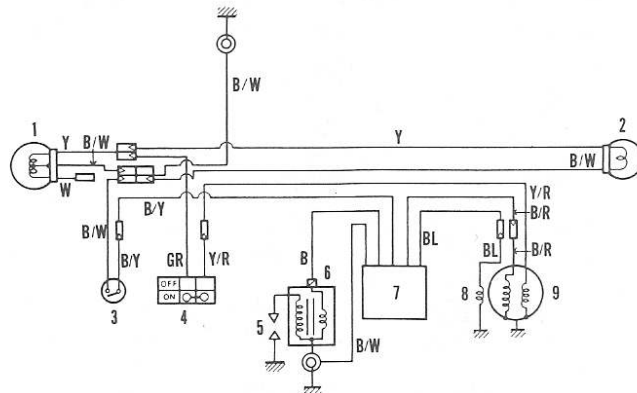
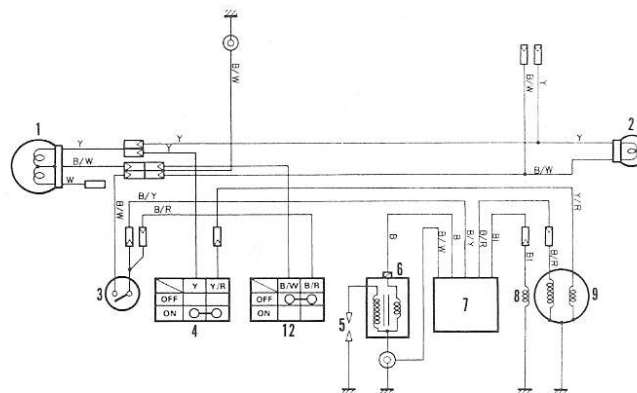

Fig. S6-8—Wiring diagram for all ALT125 models and LT125 models except for Model LT125H.
Fig. S6-9—Wiring diagram for Model LT125H. Refer to legend in Fig. S6-8 for identification of components and wiring color codes except for ignition switch (12).
positions to prevent short circuiting. Refer to Fig. S6-8, Fig. S6-9, Fig. S6-10 or Fig. S6-11 for schematic wiring diagram pertaining to a particular model.
Fig. S6-10—Wiring diagram for all ALT185 models and LT185 models except for Model LT185H. Refer to legend in Fig. S6-8 for identification of components and wiring color codes except for dimmer switch (10) and voltage regulator (11).
Fig. S6-11—Wiring diagram for Model LT185H. Refer to legend in Fig. S6-8 for identification of components and wiring color codes except for dimmer switch (10), voltage regulator (11) and combination ignition/light switch (13).